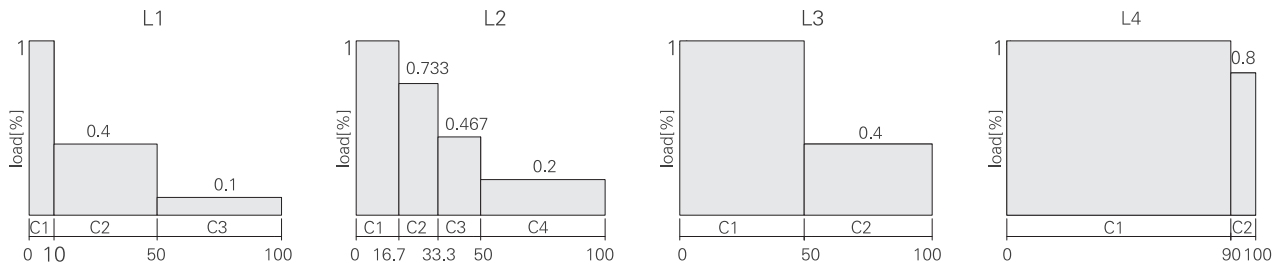

图3 起重机械典型载荷谱/Figure 3 Crane load spectrum
5.3 起重机械典型载荷谱 (图3)
5.3 Typical load spectrum for crane (figure 3)